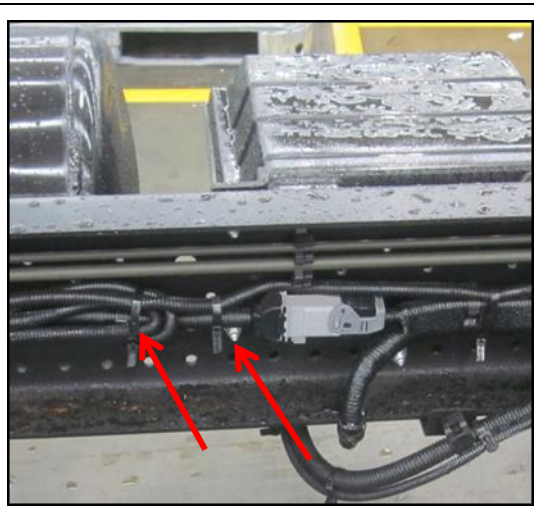

Figure 43
8. Complete the DFT harness installation by securing the harness with one tie-strap before and a second tie strap after the connector as shown in Figure 43.